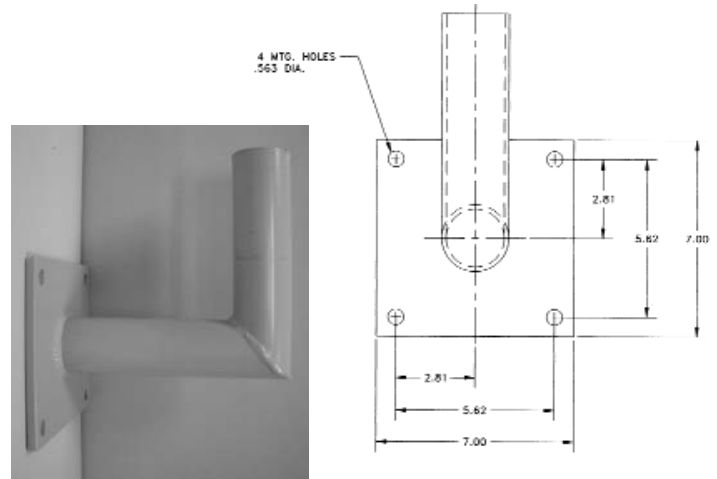

Figure 2 - SWB6 Bolt Hole Pattern
1. Determine the mounting location of the SWB6 bracket using the bolt hole pattern shown in Figure 2.
2. Mount the SWB6 bracket (with elbow pointing up) using four (4) 1/2" bolts or lag screws (not provided) or by welding in position.